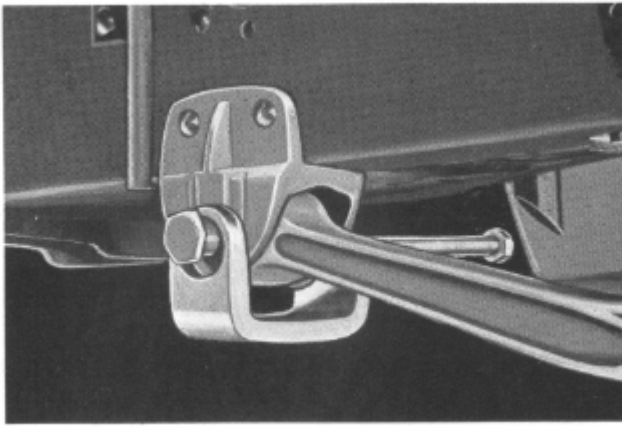

Figure 2
6. Remove cotter keys from inner ends of bolts (A) which attach torque arms to frame brackets, remove nuts and press out bolts using press J-885, Figure 2. NOTE: Due to the rubber grommets clinging to the bolt a constant pressure is required to remove and reinsert the bolt.